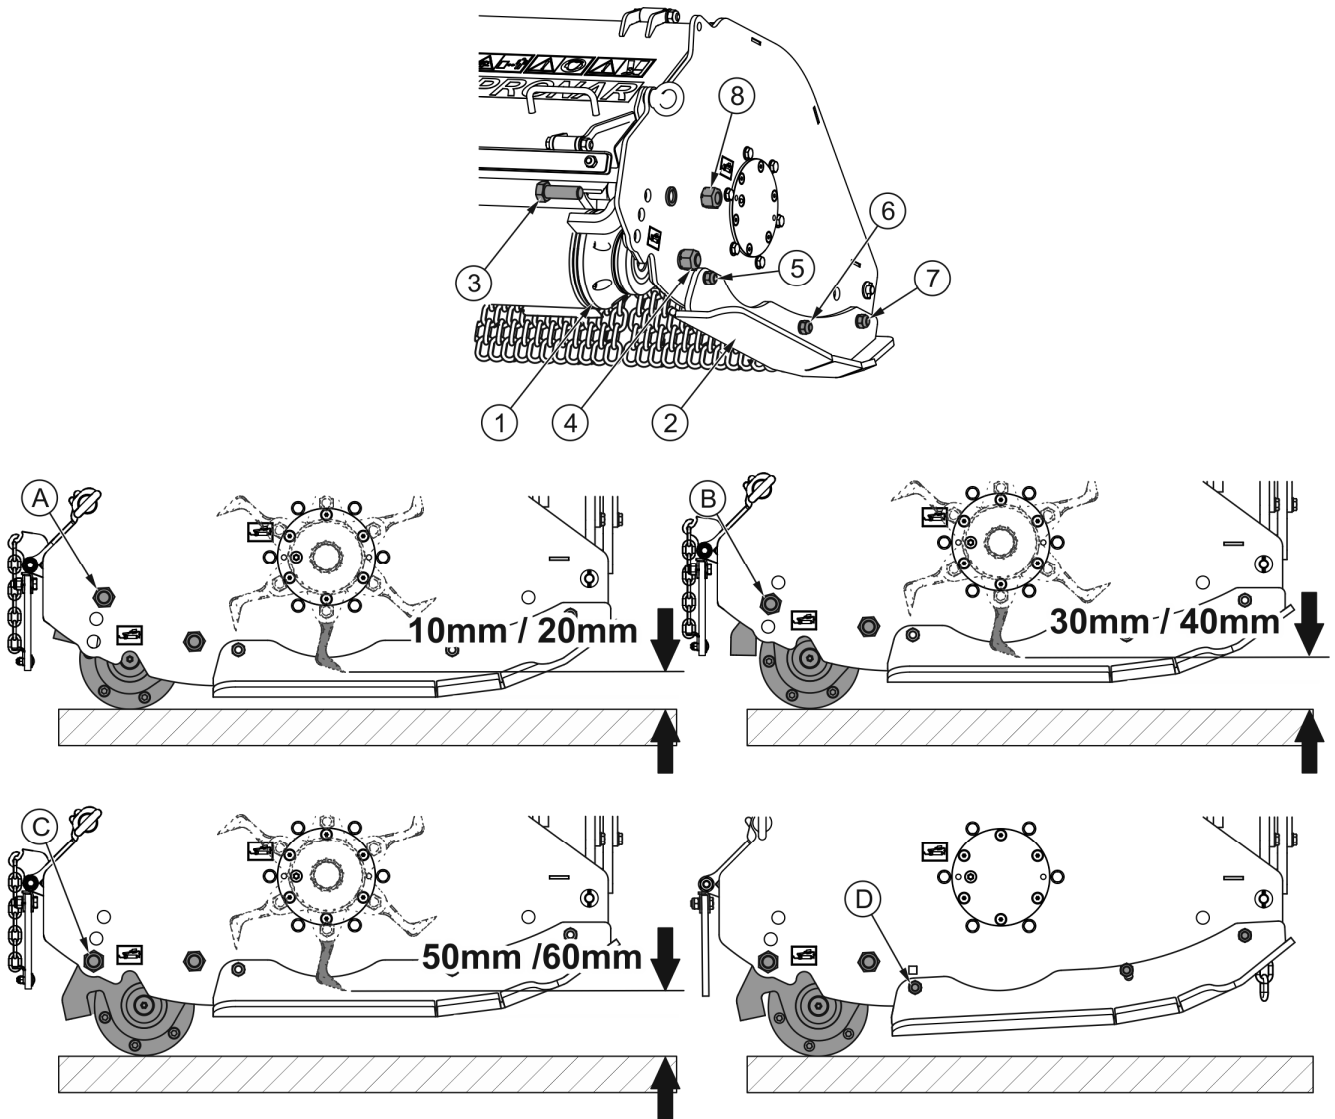

FIGURE 4.6 Setting mower cutting height.
- lower the mower so that the cutting unit is supported freely on the ground, on the tracking shaft. Slides should not touch the ground and the complete cutting unit should be set in parallel to the ground (FIGURE 4.6).
- loosen the nuts (4) on both sides of the copying shaft (1) (FIGURE 4.6),
- undo nuts (8) and remove fixing bolts (3) on both sides of the tracking shaft,
- insert fixing bolts (3) into appropriate openings and screw on the nuts (8),
- tighten the nuts (4) on both sides of the copying shaft.
- loosen nuts (6) and (7) of the bolts securing the slide,
- unscrew nut and take out bolt (5) fixing the slide,
- turn the slide so as to ensure that the slide opening aligns with the lower opening in the side of the mower housing (D) (FIGURE 4.6),
- insert fixing bolt (5) into the aligned openings and screw on the nut,
- tighten nuts (6) and (7) of the bolts securing the slide,